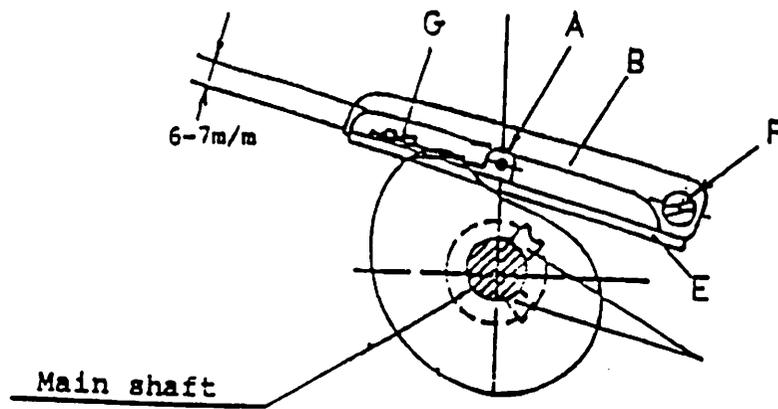

Fig. 13
(15) Adjustment of Looper Thread (Fig 13)
- b) Adjust the position of the looper thread guide by loosening the screw G so that the thread guide hole A shown in Fig 13 shall be on the center line of the main shaft.